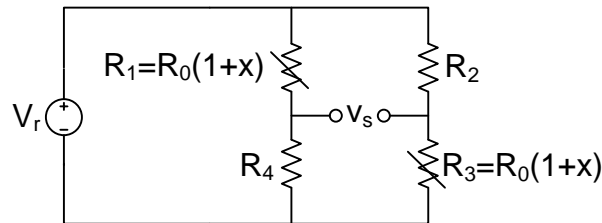

Figure 2: Bridge circuit with two strain gauges.
The two strain gauges and the two fixed resistors are connected in a bridge circuit with a voltage supply  $V_r$ . The electrical equivalent circuit of this sensor is shown in Figure 2.
- (2p) (b) Does the sensor circuit shown in Figure 2 show a non-linear response when pressure is applied to the sensor? (Explain your answer)
- (5p) (c) What value should the voltage supply  $V_r$  have to maximize the sensitivity of the sensor circuit shown in Figure 2 for a change in  $x$ ?
- (5p) (d) Show that the output voltage  $v_s$  of the sensor circuit shown in Figure 2 is equal to  $-5.00 \text{ mV}$  when a pressure of  $100 \cdot 10^6 \text{ N/m}^2$  is applied to the metal strip and  $V_r = 10 \text{ V}$ .